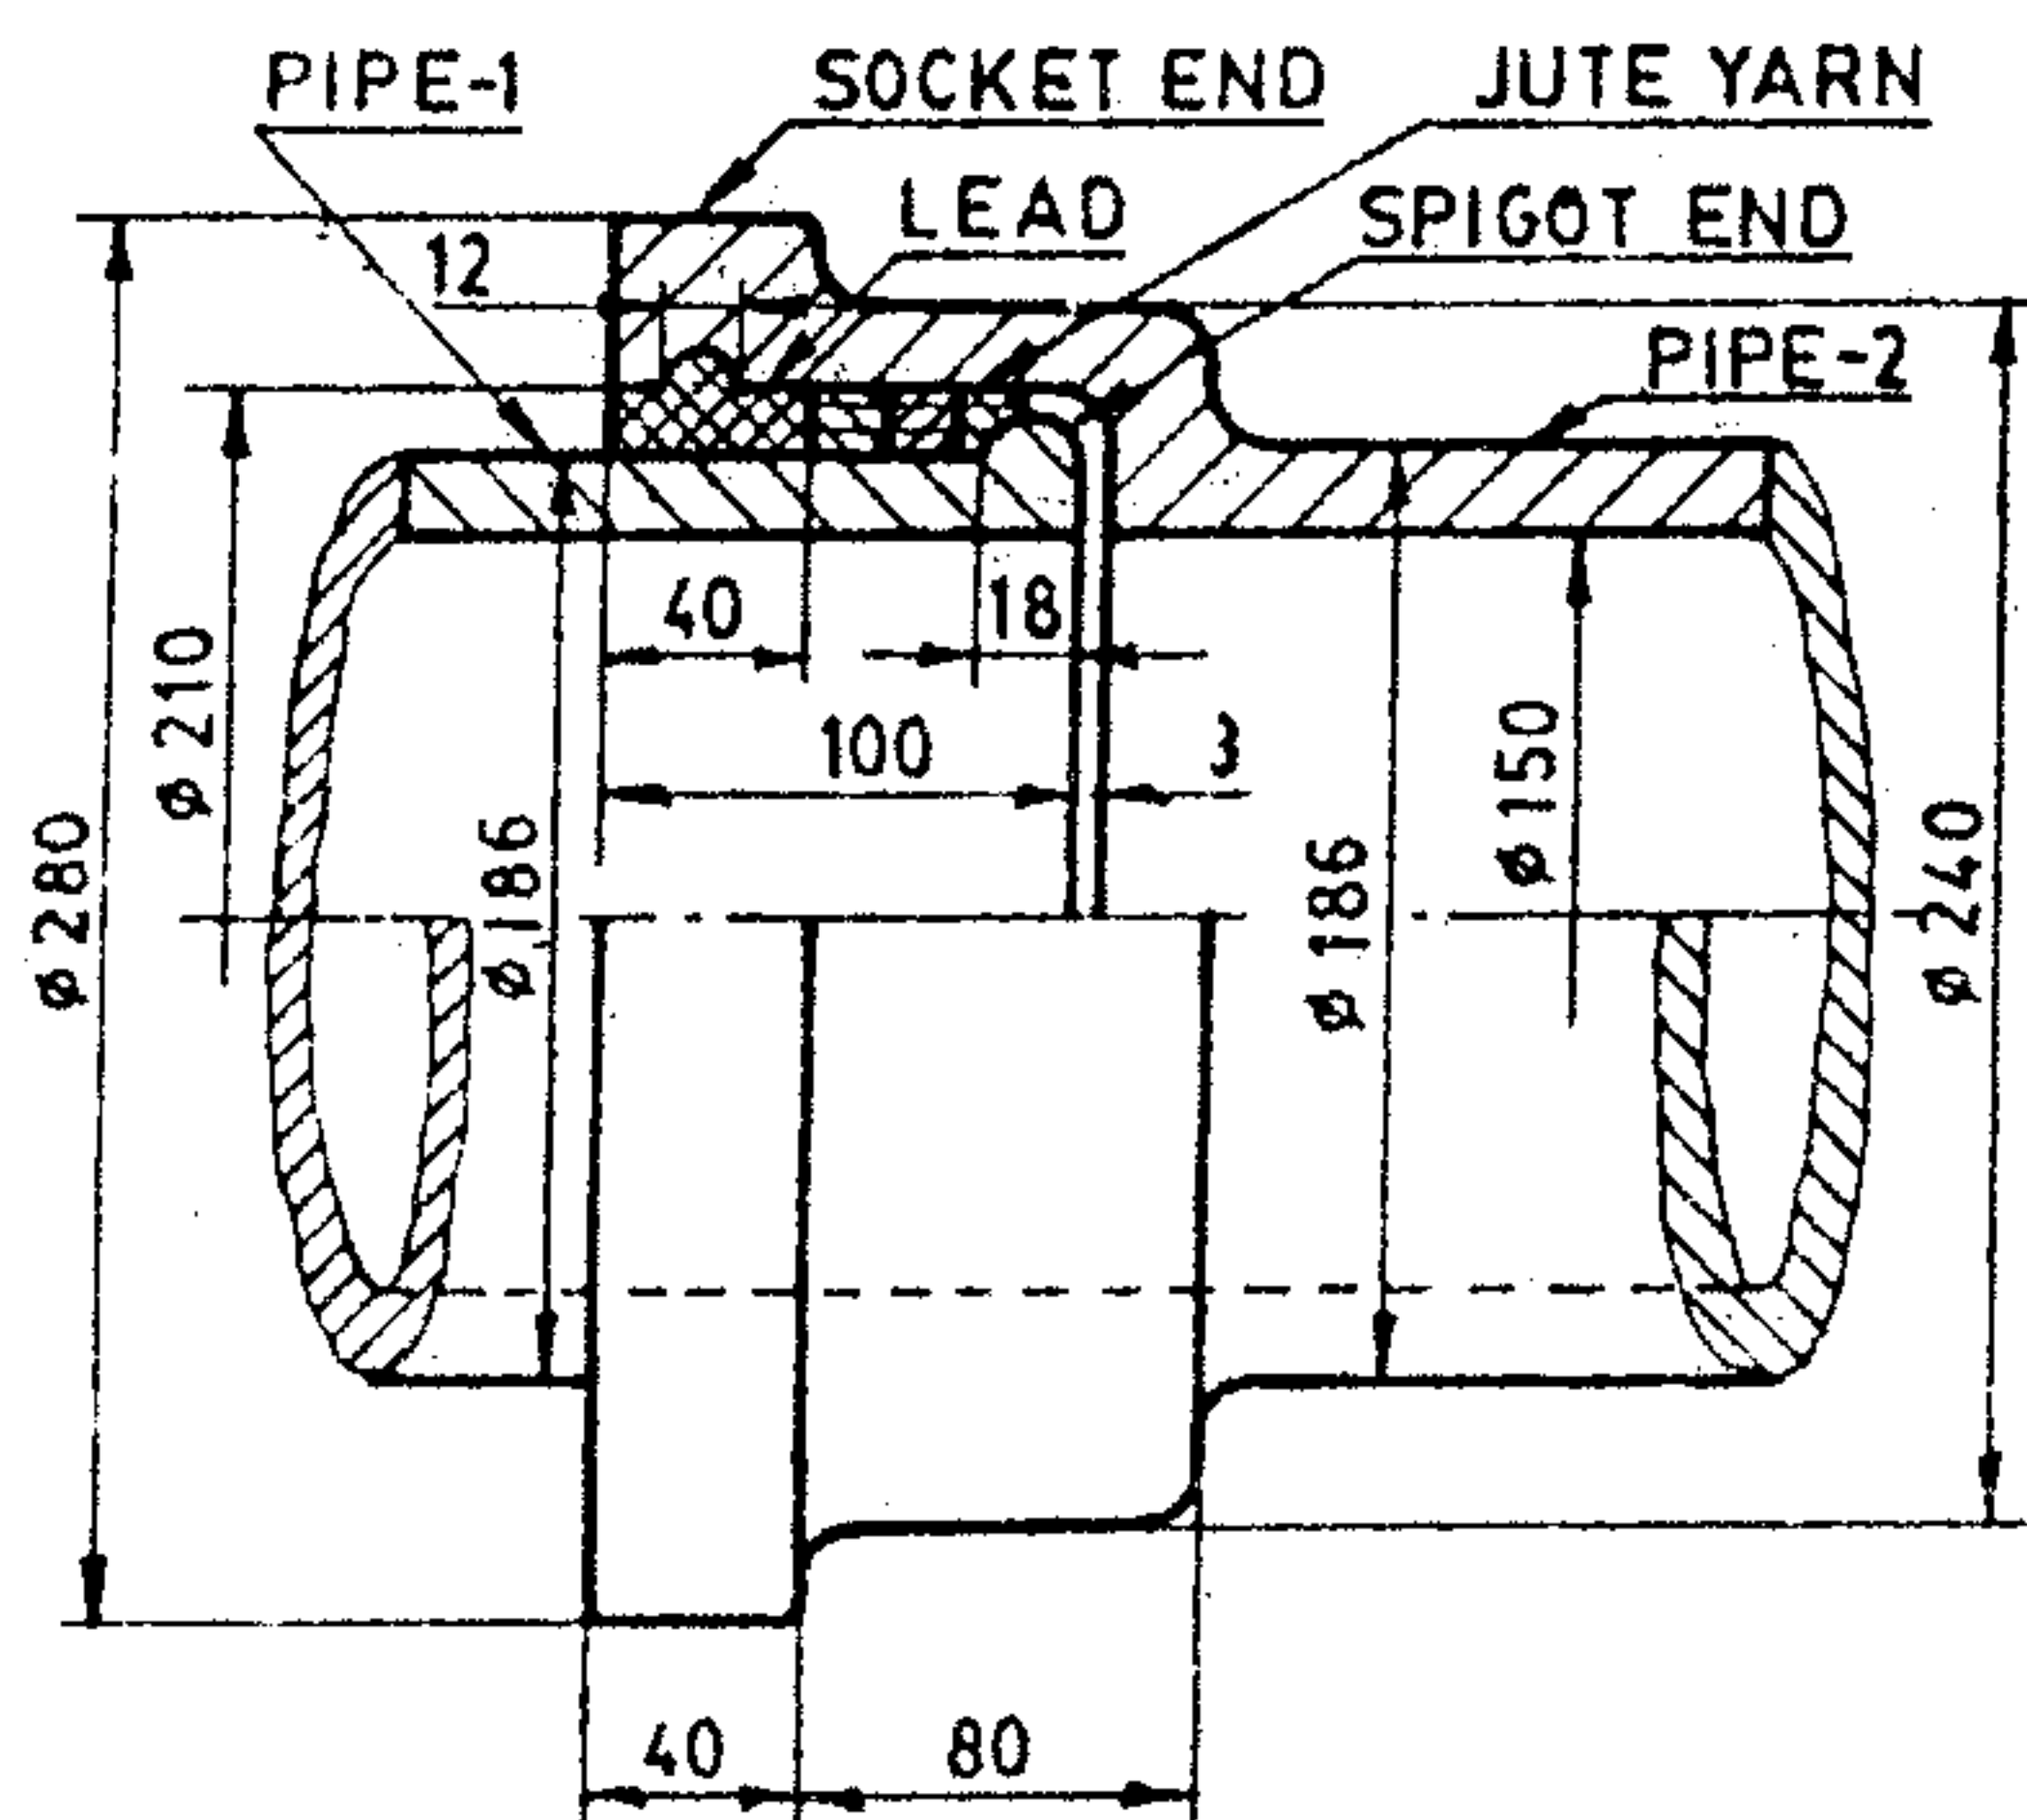

Fig. 1
1. Draw the bottom half sectional elevation and an end view of a socket and spigot joint for connecting two C.I. pipes of  $\phi$  150 mm. (Refer Fig. 1).